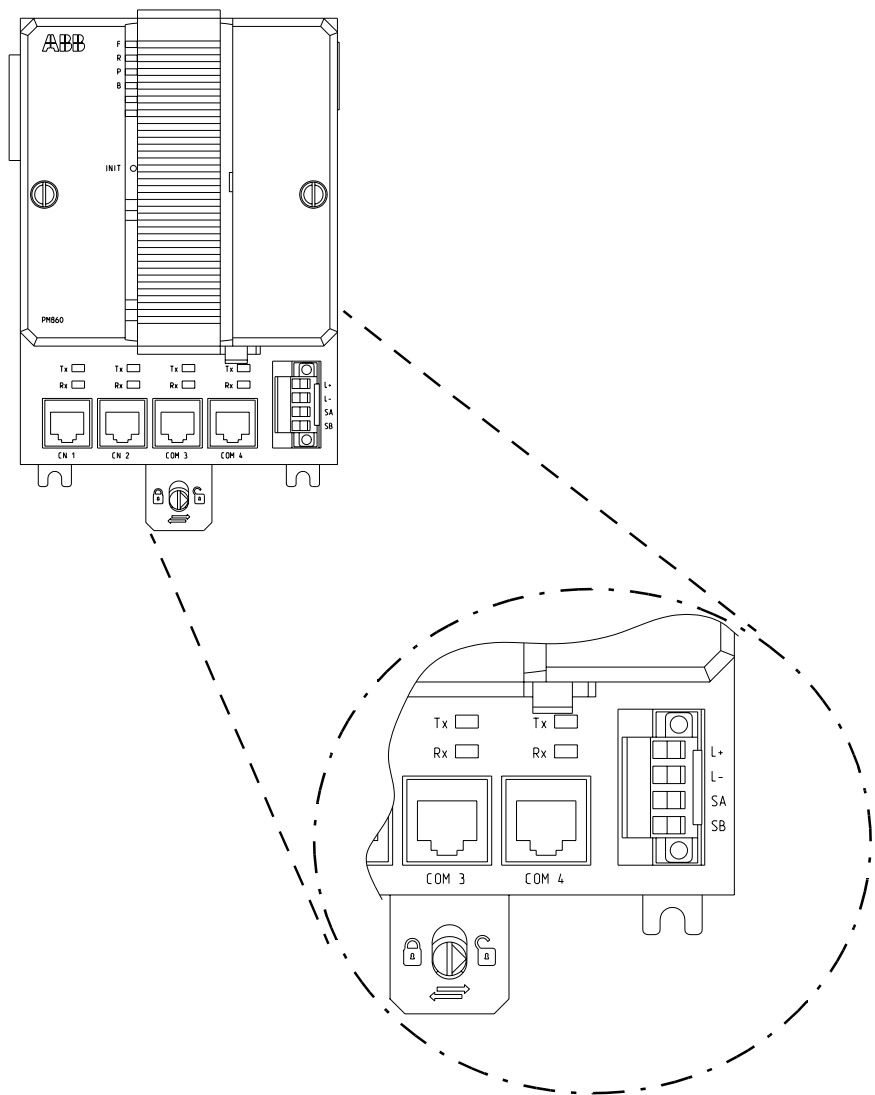

Figure 15. SA/SB Connectors for Supervision Signals
- a. Connect the power leads and, if applicable, power supervision signals from SS822 to screw terminals SA and SB (see Figure 15 on page 60).
- a. Connect the power leads to both CPUs and the power supervision signals from SS822 to screw terminals SA and SB (see Figure 15 on page 60).